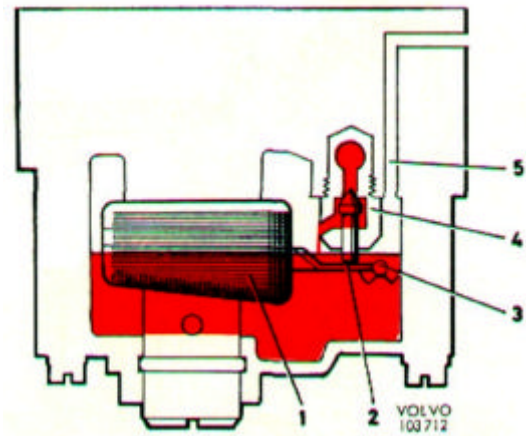

Fig 70 Float System
Fuel flows into the float chamber via the float valve (4, Fig. 70). The float (1), which is made up of twin expanded rubber floats, is carried on a bridge in the lower part of the carburettor housing. As the fuel level rises, the float lifts and closes the needle on its seating when the correct level has been attained.